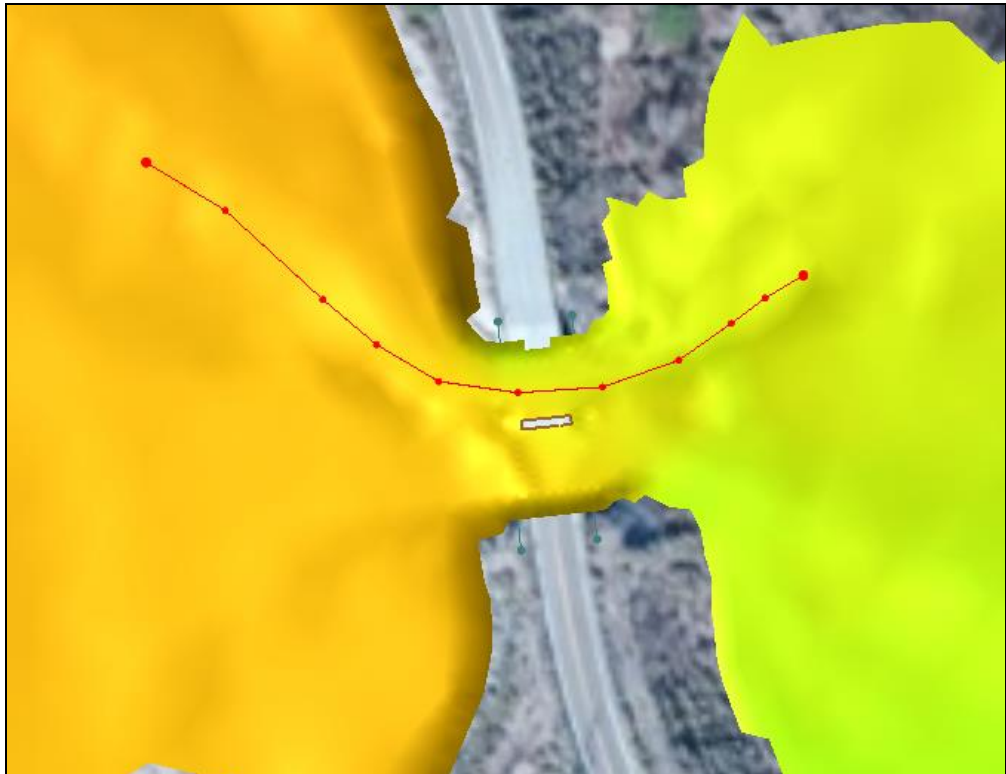

Figure 5 Observation Arc
7. Using the **Create Feature Arc**  tool, draw an arc starting on the upstream side of the bridge, running through the channel and under the bridge, and ending on the downstream side of the bridge. This will be used to create the water surface elevation profile on the 2D plot. The arc should look similar to the one in Figure 5.